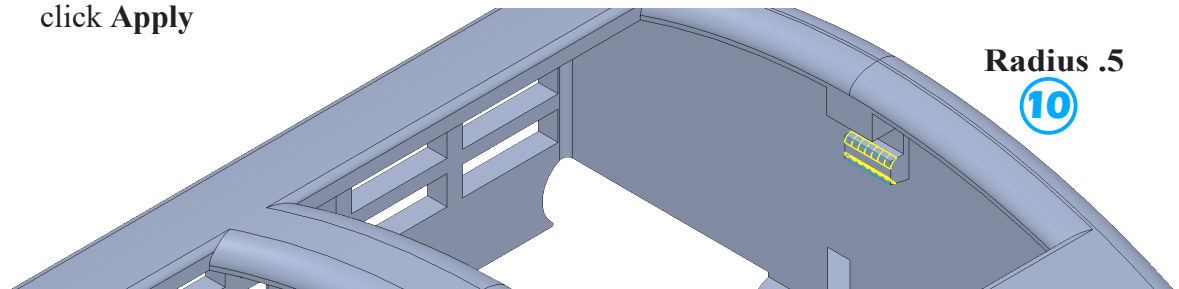

Fig. 154
- ⑩ Radius  .5
click both rear horizontal edges of rear panel catch (2), Fig. 154